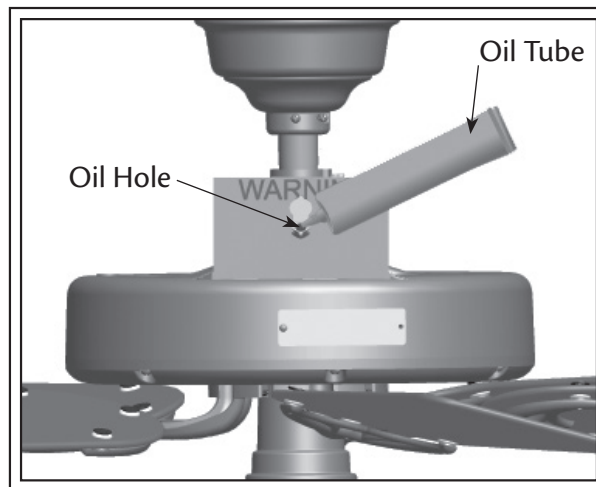

Fig. 12
3. Place the tube into the oil hole and gently squeeze the tube to empty the oil into the fan's reservoir (see Fig. 12).